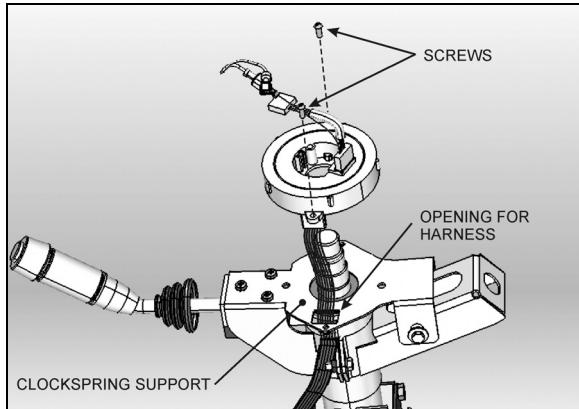

FIGURE 13: CLOCKSPrING INSTALLATION
- Route the new clockspring harness through the opening in the clockspring support (Fig. 13). Plug the connector at the base of the